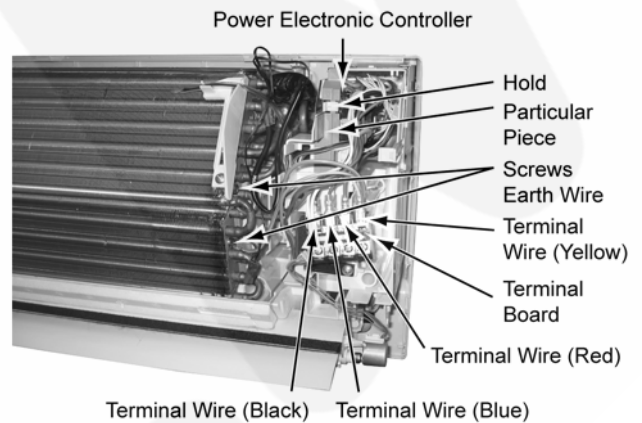

Fig. 6
- Release the 2 screws for the Earth wire. (Fig. 6)
- Pull out 4 terminal wires (Black,Blue, Red and Yellow) from the Terminal Board. (Fig. 6)
- Detach the Terminal Board from the Control Board. (Fig. 6)
- Press the Hold to the left side, remove the Particular Piece and slide out the Power Electronic Controller. (Fig. 6)